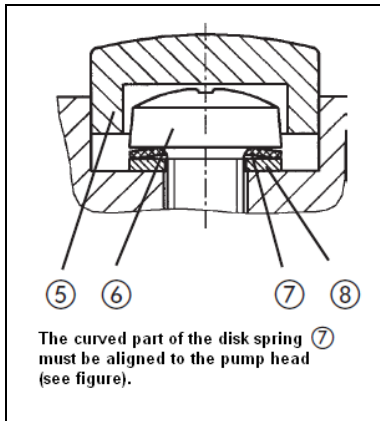

Fig. 13: Orientation of disk spring
6. Check that the hole of the valve plates/sealings (2) is centred on the centering pin of intermediate plate (1) by moving them gently sideways.
7. Place the head plate (3) on the intermediate plate (1), in the position indicated by the marking (M).
8. Check that the head plate (3) is centred by moving it gently sideways.
9. Join the head plate (3) and the intermediate plate (1) by tightening the two screws (6) (hand-tight).
- i** For placement of disk spring (7) and washer (8) and for orientation of disk spring see Fig. 13.
10. Install the screw caps (5).